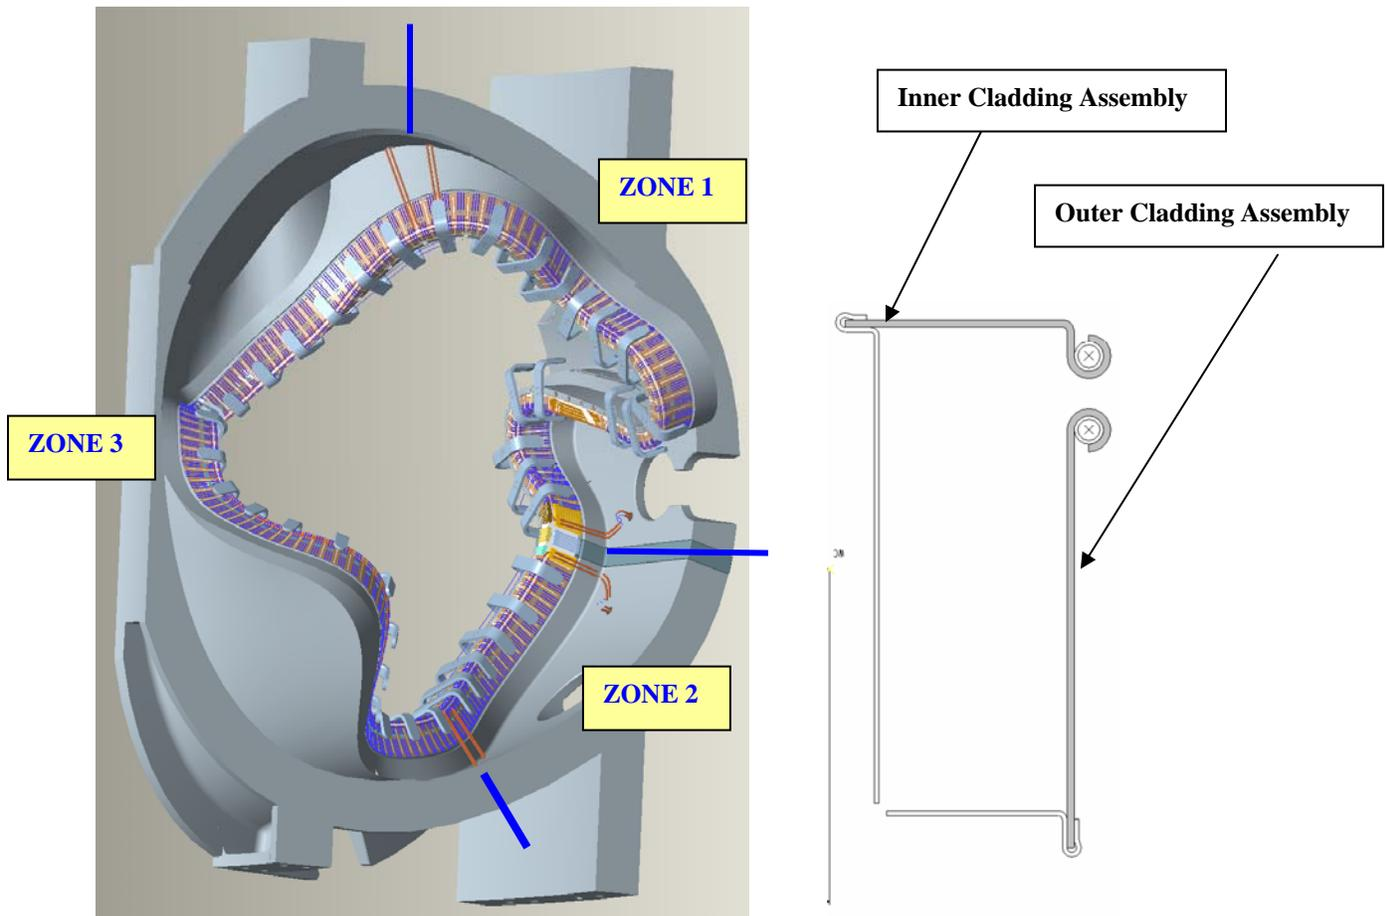

Figure 35- Cooling Tube Zone Identification
6.34.6 Record test data in the table below [Table 3-Cooling Tube Flow Results]. See Figure 35-Cooling Tube Zone Identification for identification of chill plate assemblies.